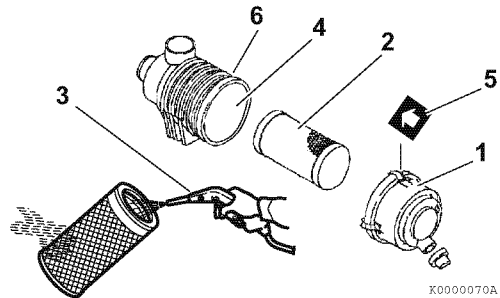
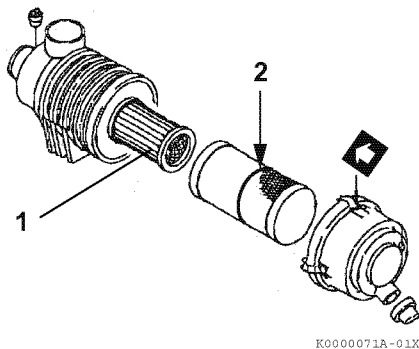

Figure 5-8
Figure 5-9
Note that a typical air cleaner is shown in **Figure 5-8** and **Figure 5-9** for illustrative purposes only.
1. Unlatch and remove the air cleaner cover (1, **Figure 5-8**).
2. Remove the element (2, **Figure 5-8**) (outer element if equipped with two elements).
3. Blow air (3, **Figure 5-8**) through the element from the inside out using 42 - 71 psi (0.29 - 0.49 MPa; 3.0 - 5.0 kgf/cm²) compressed air to remove the particulates. Use the lowest possible air pressure to remove the dust without damaging the element.
4. If the air cleaner is equipped with a double element, only remove and replace the inner element (1, **Figure 5-9**) if the engine lacks power or the dust indicator actuates (if equipped).
8. Install the element into the air cleaner case (4, **Figure 5-8**).
*Note: If there is a red line (2, **Figure 5-9**) in the outer element, reinsert the element until the overlap position of red line and end face of the air cleaner case.*
9. Reinstall the air cleaner cover making sure you match the arrow (5, **Figure 5-8**) on the cover with the arrow on the case (6, **Figure 5-8**).
Replace the air cleaner element (2, **Figure 5-8**) every 500 hours even if it is not damaged or dirty.
When replacing the element, clean the inside of the air cleaner case (4, **Figure 5-8**).
If the air cleaner is equipped with a double element, only remove and replace the inner element (1, **Figure 5-9**) if the engine lacks power or the dust indicator actuates (if equipped). This is in addition to replacing the outer element.